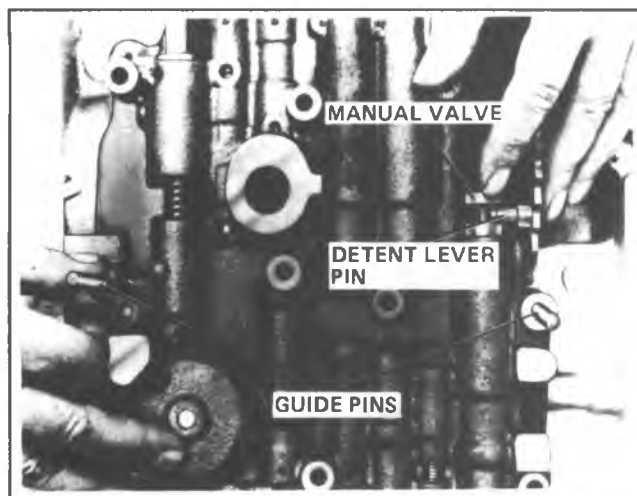

Fig. 7A-161A—Installing Control Valve Assembly Using Guide Pins
10. Insert 2 control valve assembly to case attaching bolts through the control valve assembly, gaskets and spacer plate; and install these parts, aligning the manual valve with the detent lever pin (Fig. 7A-161A). Make sure check balls, 1-2 accumulator piston and manual valve do not fall out.
11. Start control valve assembly to case attaching bolts, except the throttle lever and bracket assembly and the oil screen attaching bolts. The (2) oil screen attaching bolts are about 10mm (3/8") longer than the control valve assembly attaching bolts, and they are not interchangeable.